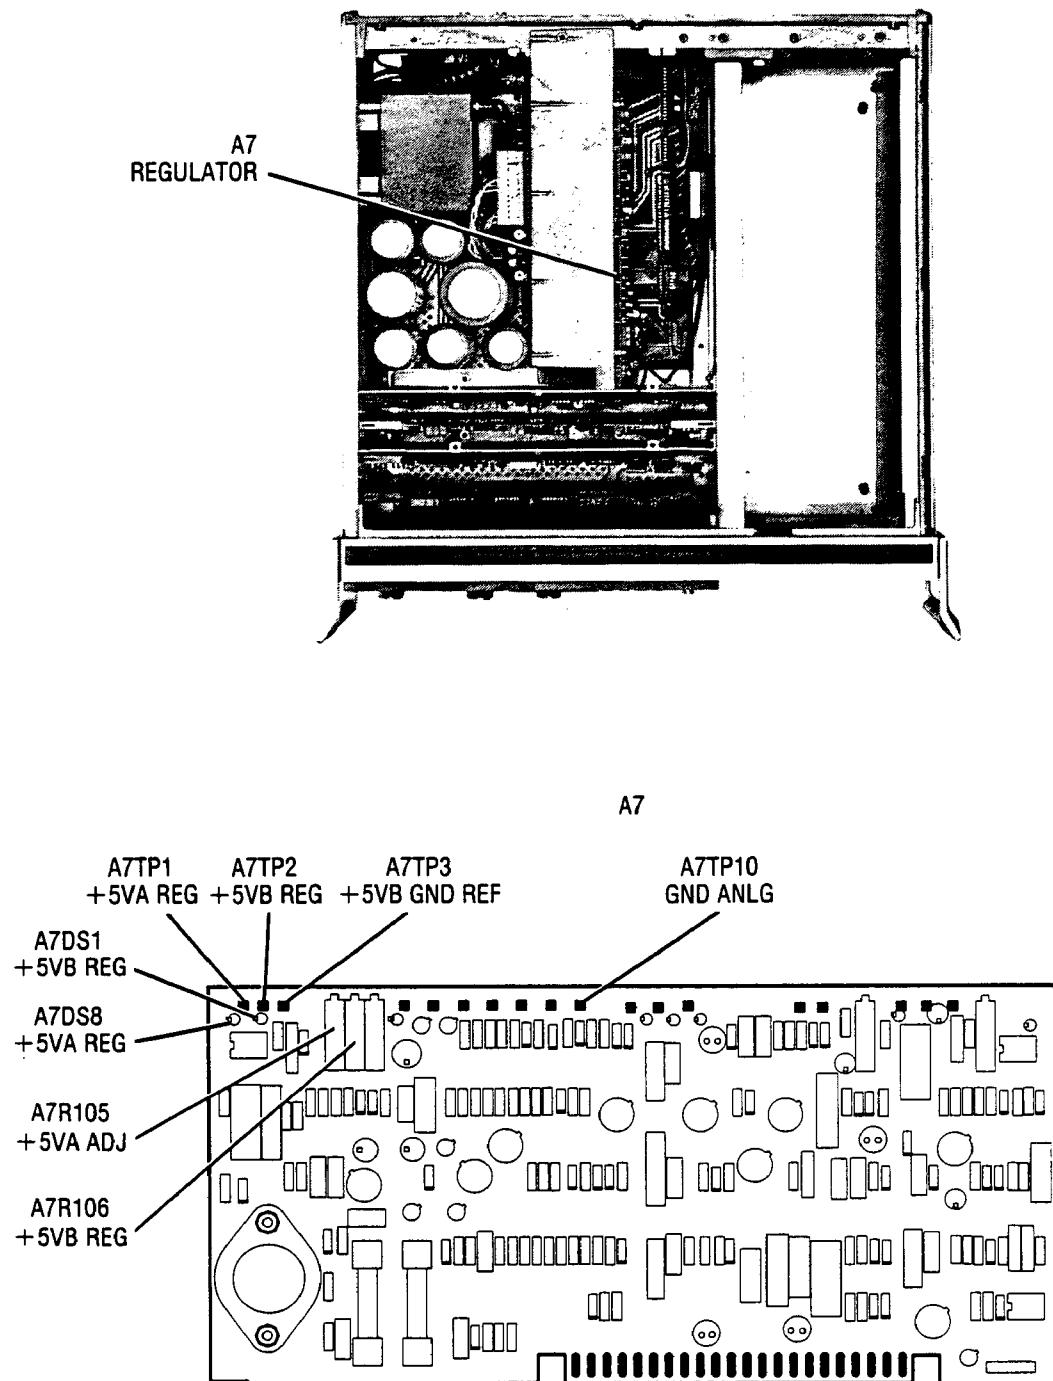

Figure 5-5. Location of +5VA, and +5VB Power Supply Adjustments
5. The DVM should indicate  $+5.11 \pm 0.04$  VDC. If it does not, A7R105 must be adjusted as necessary to achieve the proper voltage. Refer to Figure 5-5 for A7R105 component location.
7. The DVM should indicate  $5.33 \pm 0.03$  Vdc. If it does not, A7R106 must be adjusted as necessary to achieve the proper voltage. Refer to Figure 5-5 for A7R106 component location.